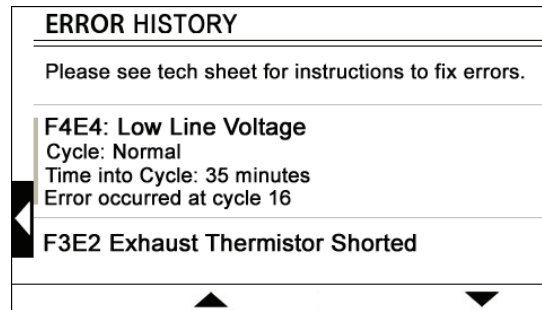

Figure 4 - Error History Screen
- **Error History** – Displays the last four saved fault/error codes (if no saved error exists, this item is NOT shown). Provides error code and description, time of error, and cycle information when error occurred (see figure 4).